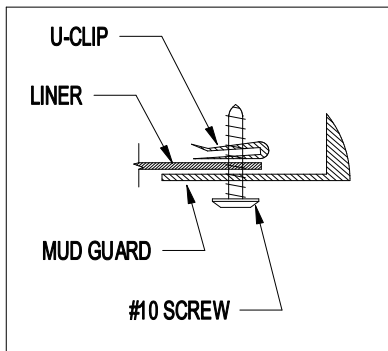

Figure 3
7. Install a #10 screw through location E and into a U-clip on the backside of the liner (Figure 3).